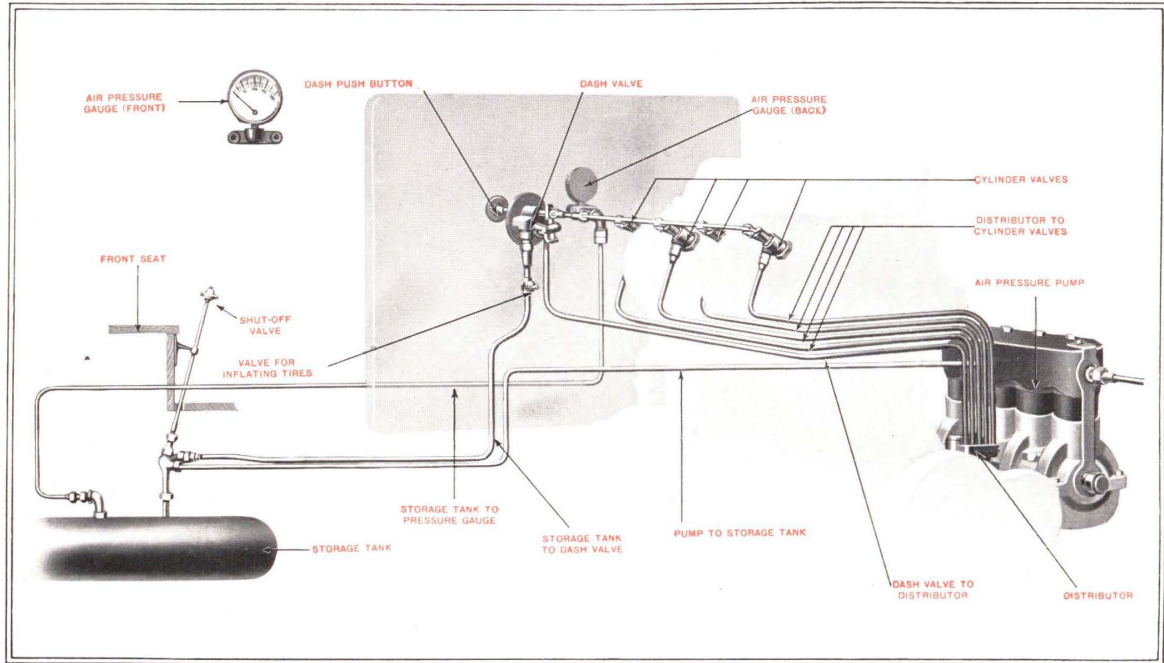
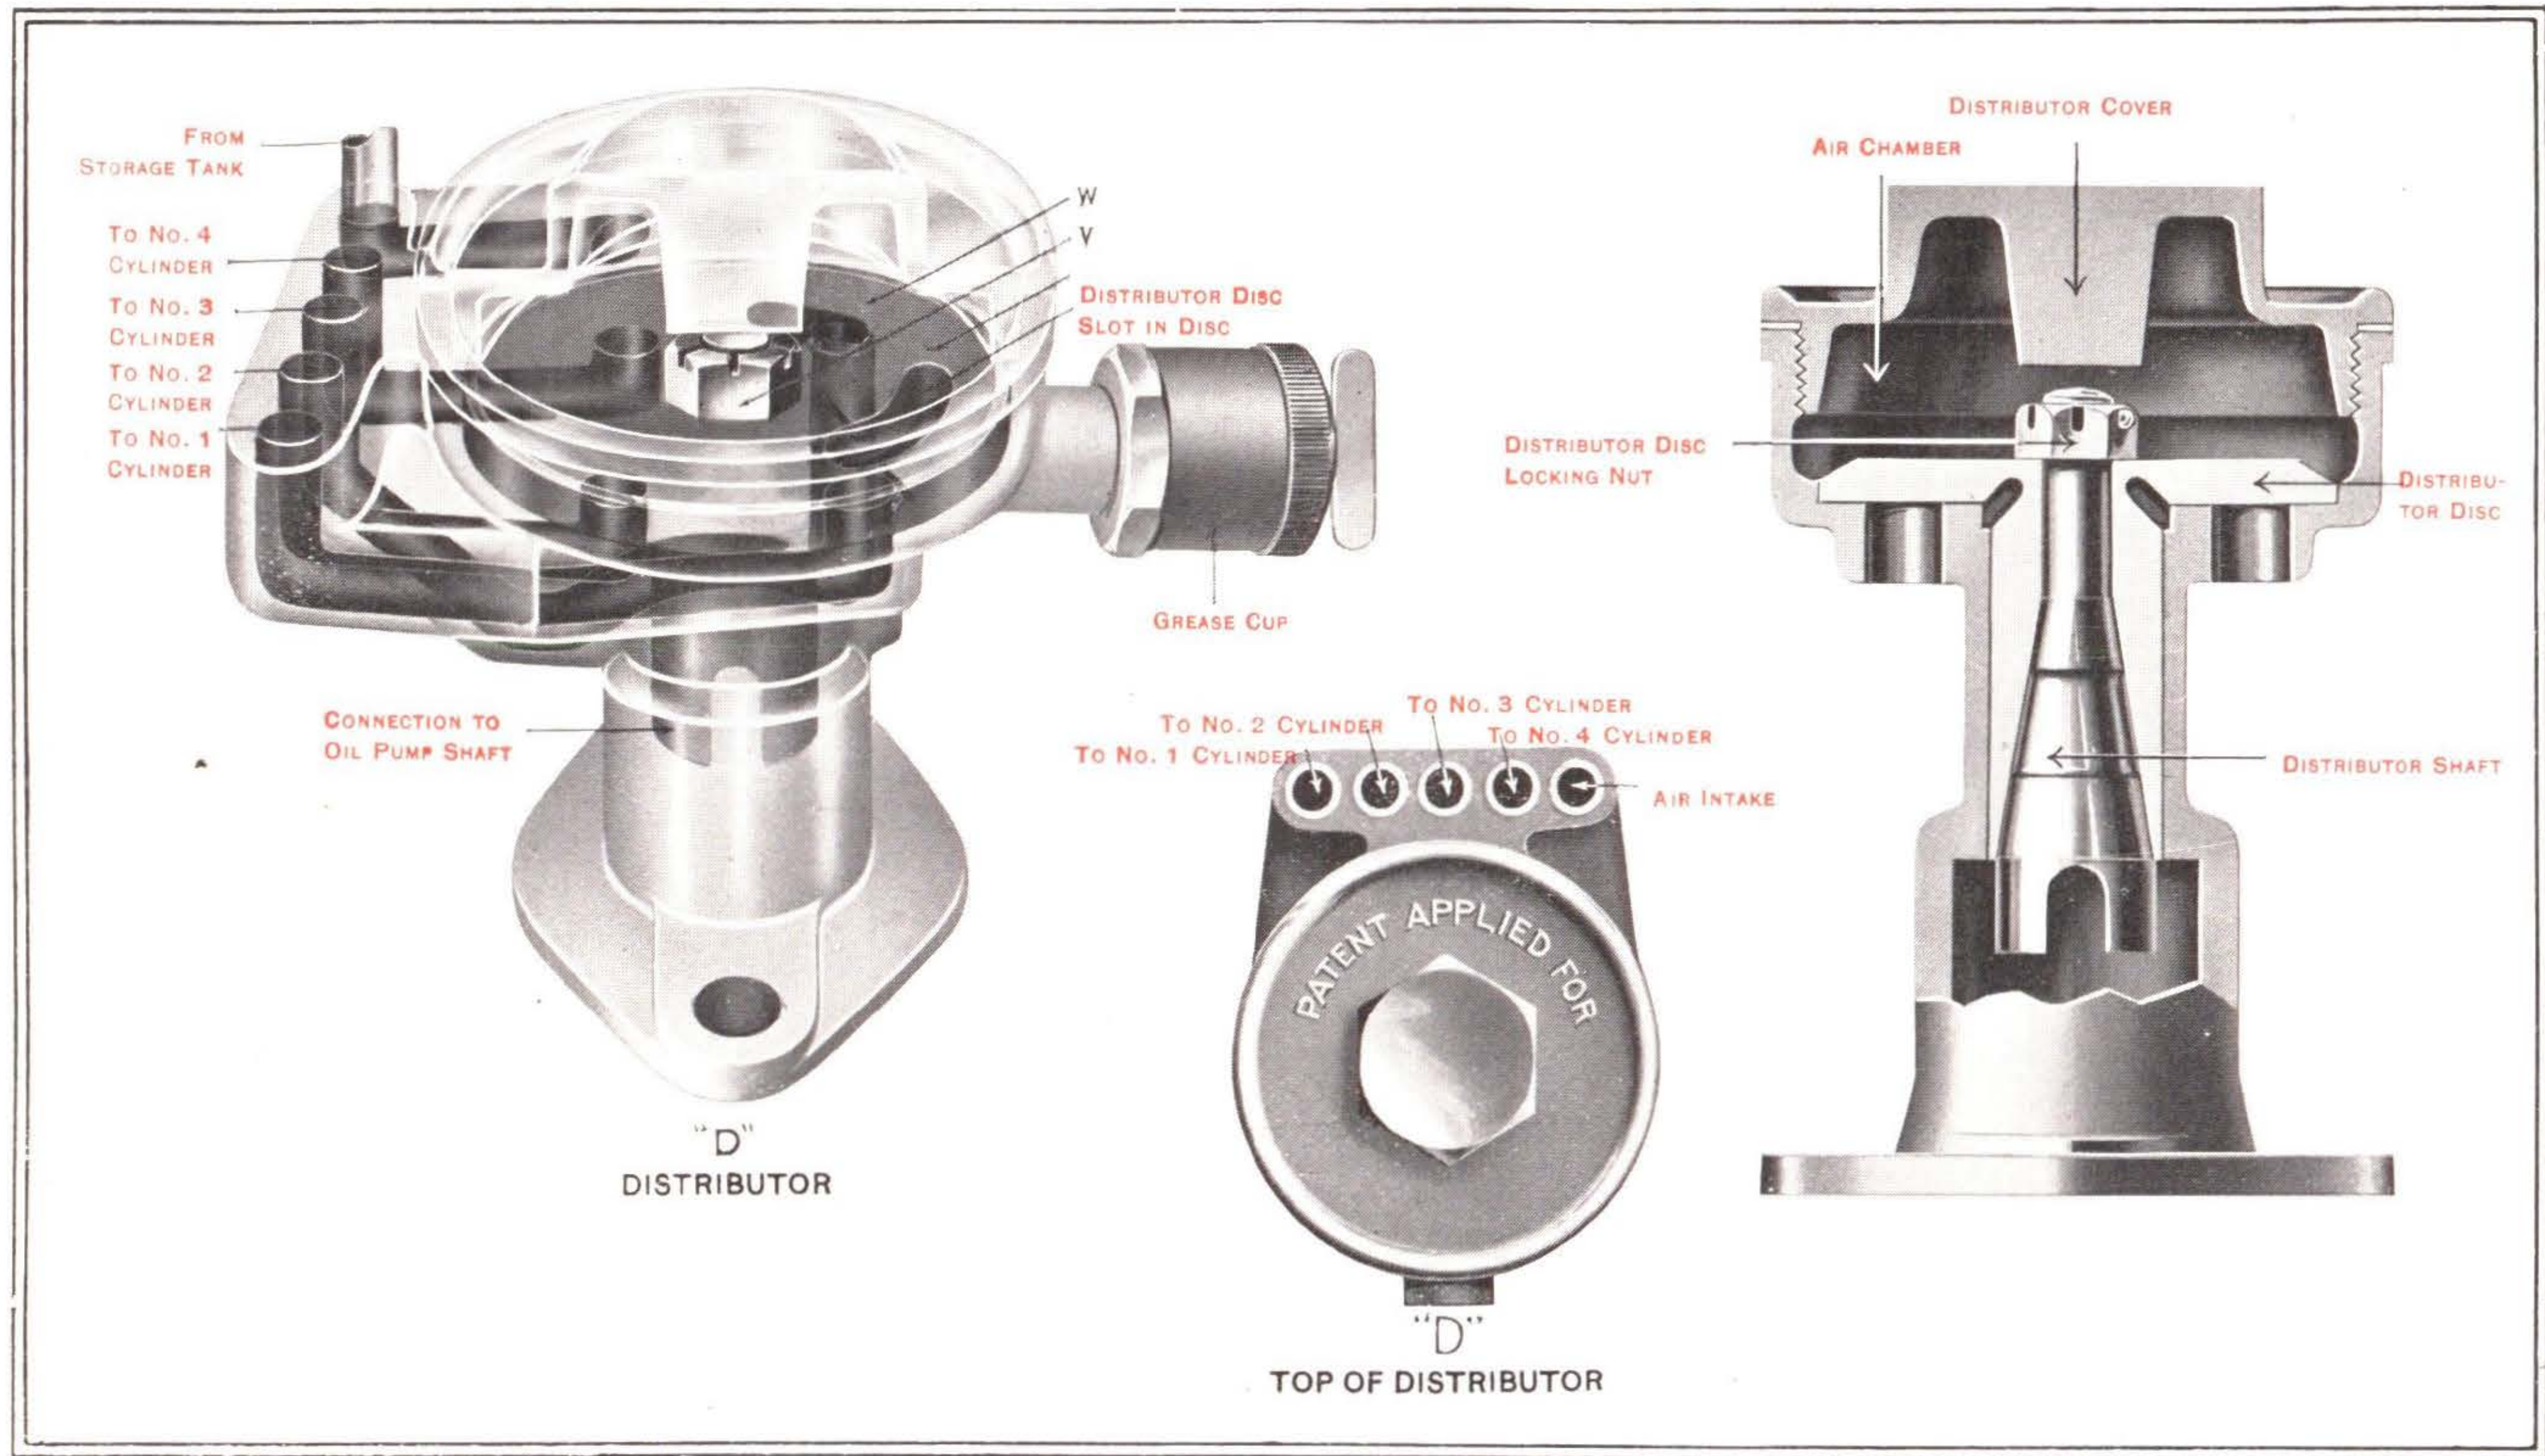
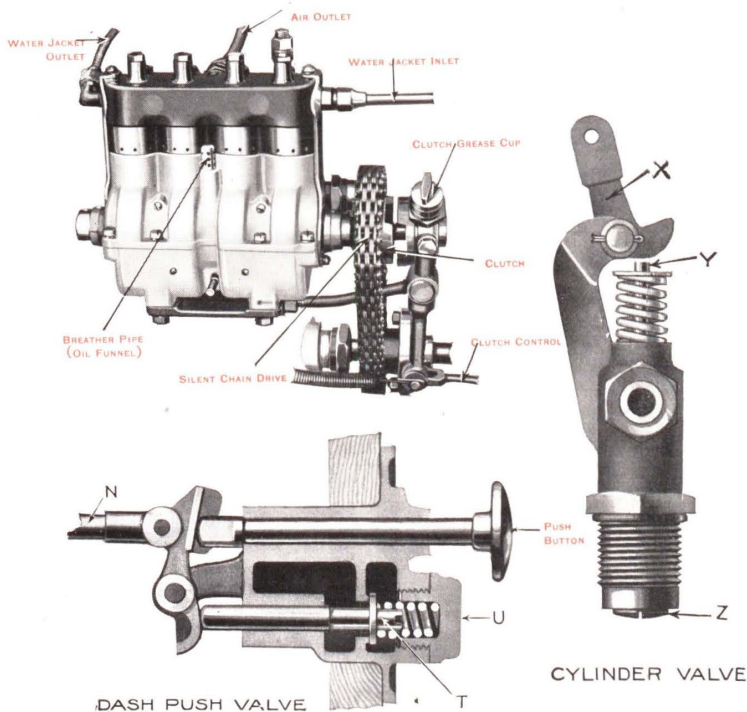

Fig. 15—Air Pressure Starting Mechanism of Chalmers "Thirty-six"
Fig. 16—Diagrammatic View of Self-starter Distributor
Fig. 17—Air Pump, Cylinder Valve and Dash Push Valve of Self-starter
The parts of the Chalmers Self-starter are as follows (See Fig. 15): a high pressure four-cylinder air pump for compressing air in "storage tank;" a pipe for carrying air from pump to storage tank; a pipe which carries air from storage tank to "push valve" on dash; a pipe which carries compressed air from the push valve to the "distributor;" four pipes through which air is carried from the distributor to the various cylinders; "poppet valves"—one in each of the four cylinders—by means of which compressed air from the distributor is admitted to the cylinder ready for the working stroke; a "pressure gauge" on the dash which keeps the operator informed of the amount of compressed air in the storage tank; a "pump clutch," operated by a foot pedal, which throws the gears of the air pump into mesh.
The four-cylinder air pump is located at the left side of the motor toward the front. (See Fig. 15 and Fig. 17.) It is a simple device for compressing the air and delivers a steady flow of compressed air to the storage tank. The pump is driven by a silent drive chain from the water pump shaft, and operates only when the gears are thrown into mesh by pressing the pump clutch foot pedal.
The pump is lubricated by a constant level splash system similar to that of the motor. Enough of the oil in the pump crank case works up to the underside of piston leathers to keep them in perfect condition; yet the pump will not deliver oil, but pure air. The pump crank case will hold about 2 ozs. of oil, and should be filled with Heavy (600-W) Steam Cylinder oil at least once a week. To lubricate pump remove breather cap (Fig. 17) and pour in the required amount of oil. The
There are but three openings in the storage tank. From one of these a pipe leads to the pressure gauge on the dash (Fig. 15); another allows ingress and egress of compressed air for starting the motor; a third opening is the chain plug in the bottom of the tank, which should be removed every month or two to allow any accumulated moisture to escape. Connected with the main air line at the storage tank is a shut-off valve (Fig. 15), which should be closed at night or when the car is left standing for a long time. The handle of the shut-off valve projects through the heel board at the front of the driver's seat. The shut-off valve is merely a protection against small leaks in the starting mechanism.
The dash push valve (Figures 15 and 17 and Page 11) has a double function—opening the air line from the storage tank to the distributor, and opening the poppet valves in the cylinders.
Pressure upon the push button (Fig. 17) opens the valve (T) and allows air to escape from the storage tank through a pipe (Fig. 15) to the distributor. Simultaneously the dash valve button opens the cylinder valves (Fig. 15) so that air, coming from the distributor through the pipes shown in Figure 15 has ready access to the cylinders.
The function of the distributor (Fig. 16) is to send charges of air into the cylinders ready for the working stroke, in their order of firing. The distributor is geared to the pump and magneto shaft and positively timed, so that the charges of compressed air are fed to one cylinder at a time.
The distributor (Figures 15 and 16) consist merely of an air tight case in which operates a small gear-driven disc (W). This disc is bolted to its shaft and rotates on a bronze seat (V Fig. 16). As the disc revolves, the air above it passes through the slot (Fig. 16) into one of the four holes beneath the disc and thence to the proper cylinder, which is ready for the explosion stroke.
The purpose of the cylinder valves (Figures 15 and 17) is to prevent the escape of cylinder compression into the Self-starter system during the regular operation of the motor.
As the button of the dash push valve is depressed, a bar (Figures 15 and 17) opens the four cylinder valves by depressing a small lever, pushing down the valve stem and raising the valve proper from its seat. This operation gives the air charge an uninterrupted passage from the distributor pipe directly into the cylinder.
To inflate tires: First, attach hose to special shut-off valve (Fig. 15) under the hood near the dash at the right side of the car. Fasten other end of hose to tire. Open shut-off valve until tire is inflated with the proper pressure. Be sure to close shut-off valve before removing hose.